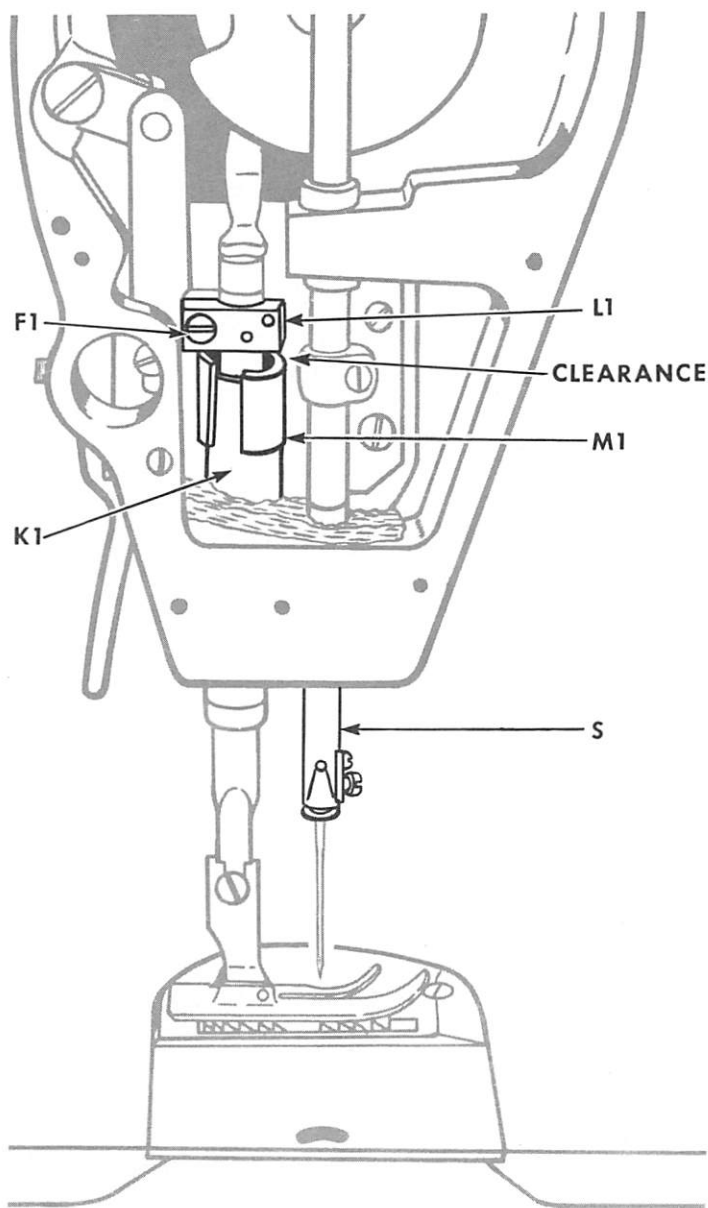

Fig. 21. Checking Height of Presser Bar.
2. When presser foot rests firmly upon throat plate (with feed dog below throat plate) there should still be some clearance between presser bar guide bracket L1 and lifting bracket M1 as shown in Fig. 21.
Loosen clamping screw F1, Fig. 21.